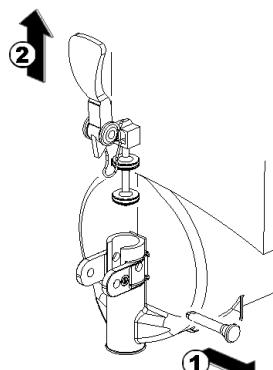

figure 11
- 5 Dismantle the faucet assembly (see figure 11).
- 3 Assemble the faucet by reversing the disassembly steps (see figure 11)